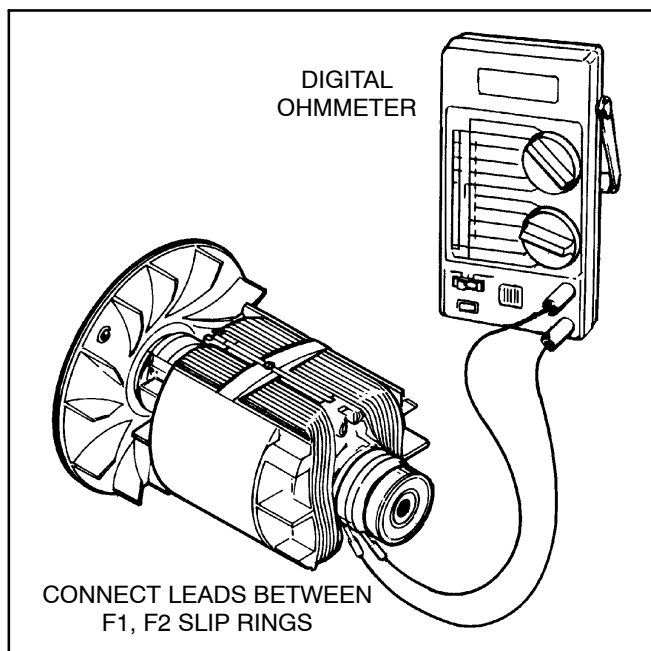

FIGURE 7-3. TESTING ROTOR FOR AN OPEN CIRCUIT
2. Using ohmmeter, check resistance between F1 and F2 by connecting leads between the F1 and F2 slip rings, Figure 7-3.